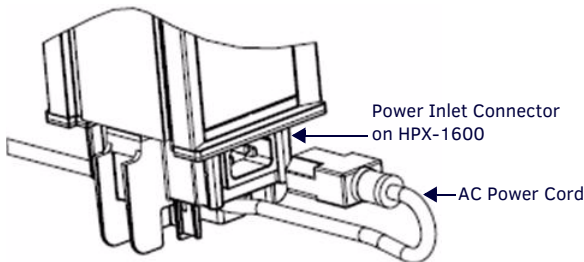

FIG. 2 HPX-1600 - POWER INLET CORD REMOVED
**CAUTION!** Ensure that the AC Power cord is disconnected from IEC C-14 power inlet connector or from the AC Mains Outlet on the HydraPort Base Assembly prior to disassembly of the HydraPort Base assembly or installation of the HPX-AC-HSP (FIG. 2).